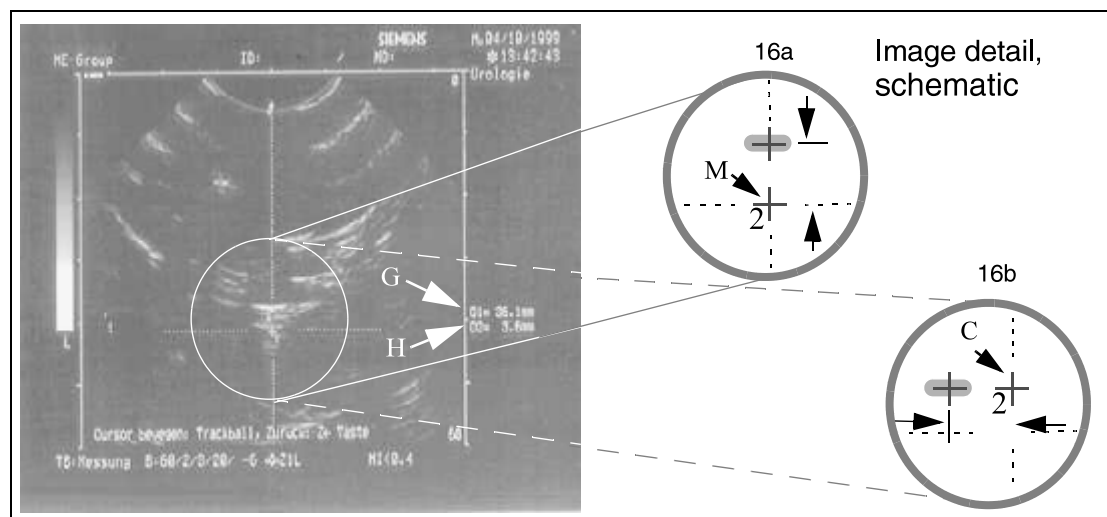

Fig. 78: Checks_02
Checking the distance: Height (16a/ Fig. 78 / p. 73)
- The value displayed for “D1” (G/ Fig. 78 / p. 73) must be between 33 and 36 mm; if not, move the probe appropriately in the longitudinal axis.
- Use the track ball to move the “+2” cross to the longitudinal axis of the target line into the isocenter (M/ 16a/ Fig. 78 / p. 73).
- Move the “+2” cross using the track ball horizontally into the center of the white area (16a/ Fig. 78 / p. 73) of the isocenter phantom.
- The value displayed for “D2” (H/ Fig. 78 / p. 73) must be between 1 and 5 mm. This is only valid for the default values, see instructions, SPL1-130.038.01... .
Checking the distance: Page (16b/ Fig. 78 / p. 73)
- Move the “+2” cross using the track ball onto the horizontal axis of the target line (C/ Fig. 78 / p. 73).
- If the center point of the white area (16b/Fig. 78 / p. 73) is not in the isocenter (permissible difference ± 0.5 mm from the center):
If the display of the ball (16b/Fig. 78 / p. 73) appears to the left of the isocenter, the correction value must have a negative sign (to the right it must have a positive sign).
- Set half the value of D2 (H/Fig. 78 / p. 73).
Example (H/Fig. 78 / p. 73) D2 = 1.2 mm $\Rightarrow$ Enter: -06
- Check the deviation; if the white area (16b/Fig. 78 / p. 73) is not in the center of the isocenter, repeat the procedure.